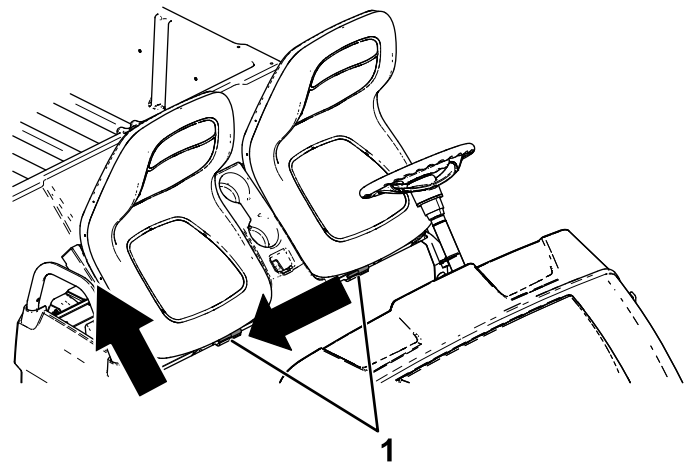

Figure 31
2. Slide the seat assembly to the side out of the pins, and lift the seat assembly upward (Figure 31).